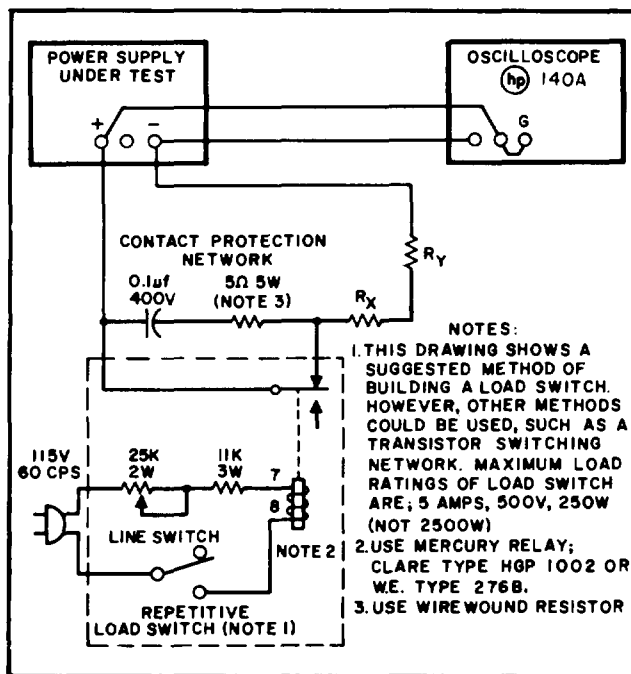

Figure 5-8. Transient Recovery Time, Test Setup
5-35 A mercury-wetted relay, as connected in the load switching circuit of Figure 5-8 should be used for loading and unloading the supply. When this load switch is connected to a 60Hz ac input, the mercury-wetted relay will open and close 60 times per second. Adjustment of the 25K control permits adjustment of the duty cycle of the load current switching and reduction in jitter of the oscilloscope display.
- Connect test setup shown in Figure 5-8.